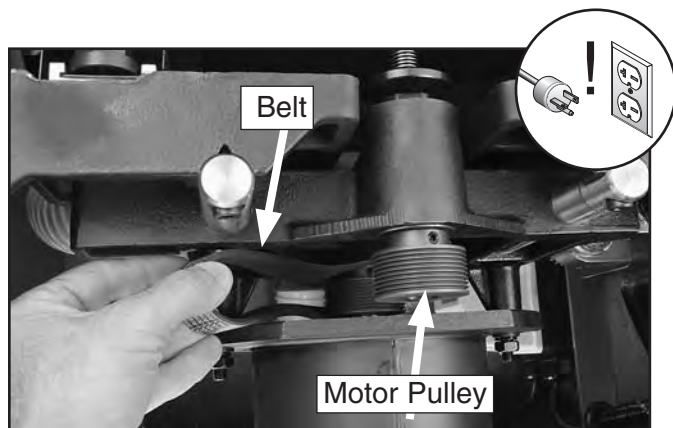

Figure 144. Removing belt.
7. Roll the belt off of the upper and lower pulleys, as shown in **Figure 144**. Be careful not to pinch your fingers.